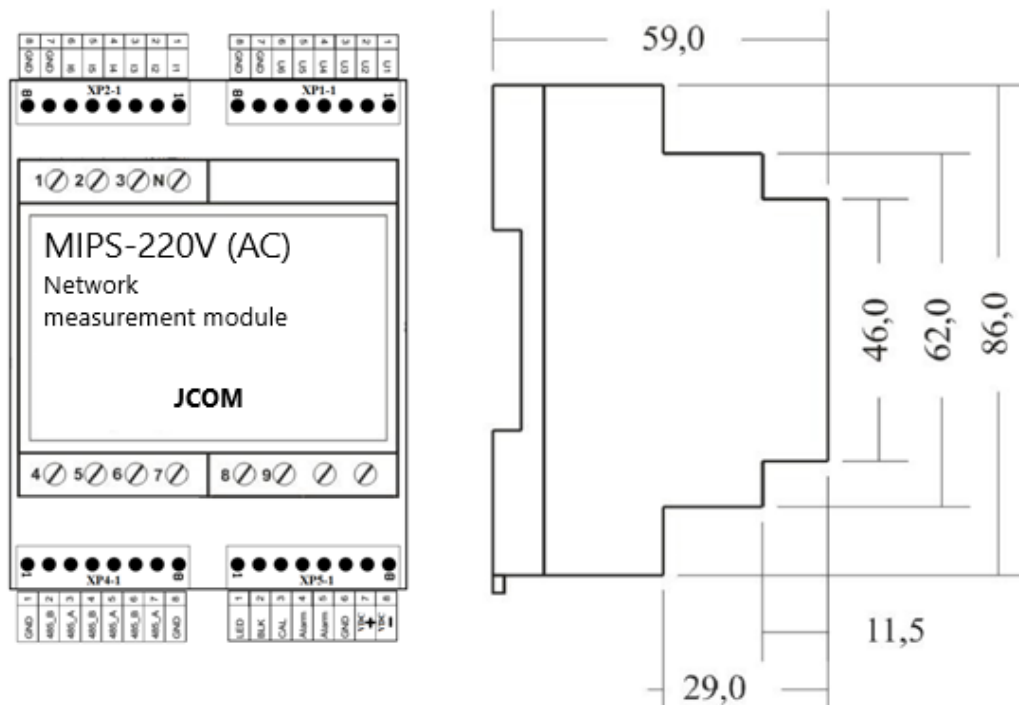

Figure 1
The MIPS220 device is mounted on a DIN rail. The overall dimensions of the MIPS device are shown in Figure 1.
2.15 Overall dimensions are shown in Figure 1.
The type and purpose of the device terminals are shown in Table 2. The designations in the table correspond to the designations in Figure 1.
5.3.5 The pinout of the connectors is shown in Figure 1. Connection via RS-485: